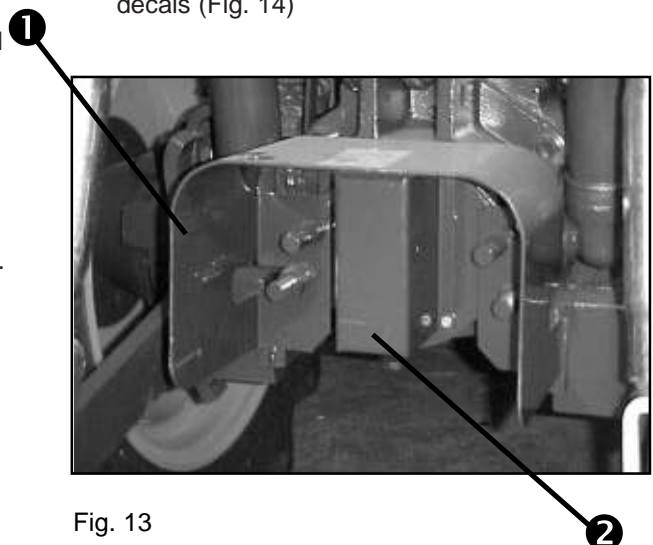

Fig. 13
- Make sure the protective casing (1) is correctly assembled. When the power take off is not being used make sure the protector (2) is well placed (Fig. 13).